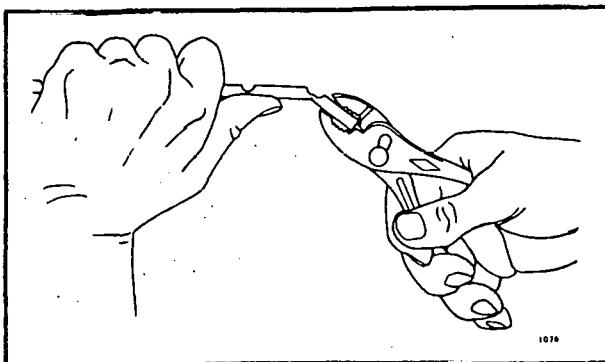

FIG. 3-SHORTENING THE BULB HOLDER.
3. Break off bulb holder to desired length, as shown in Fig. 3. NOTE: Holder should be long enough to hold sensing bulb in freely circulating air, away from duct wall. Neatly coil any excess capillary tubing at controller case or at bulb holder.